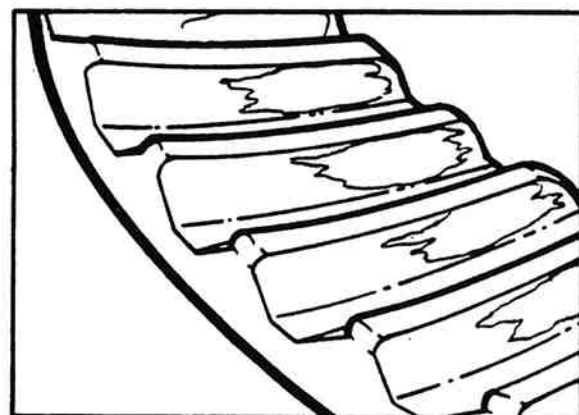

Figure 2-90. High Pattern.
b. To correct a high contact pattern (Figure 2-90), decrease the thickness of the shim pack under the bearing cage. When the thickness of the shim pack is decreased, the drive